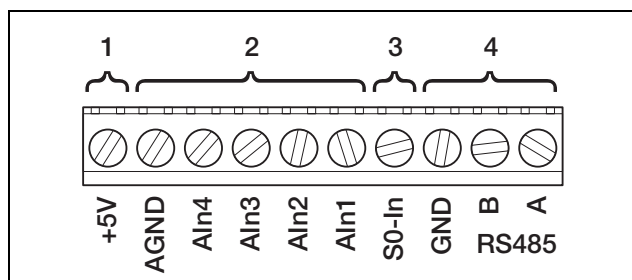

Fig. 54: Cable terminal
- Connect the lines to the terminal according to the terminal assignment (figure 54 and table 6).
Connections for the serial **RS485** interface are found **on the terminal for analogue interfaces (figure 54)**. Using RS485, up to 200 inverters – depending on the inverters used – can be connected, see Table 7. Additional components can be connected to RS485. An additional level converter may be required in some cases. Use a twisted-pair cable for connection, such as LiYCY 2 × 2 × 0.25.
- Connect the lines to the terminal (4 in figure 54) according to the terminal assignment (table 6).